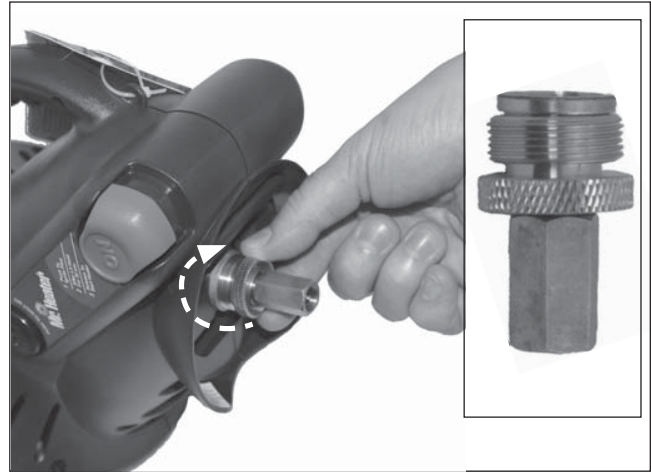
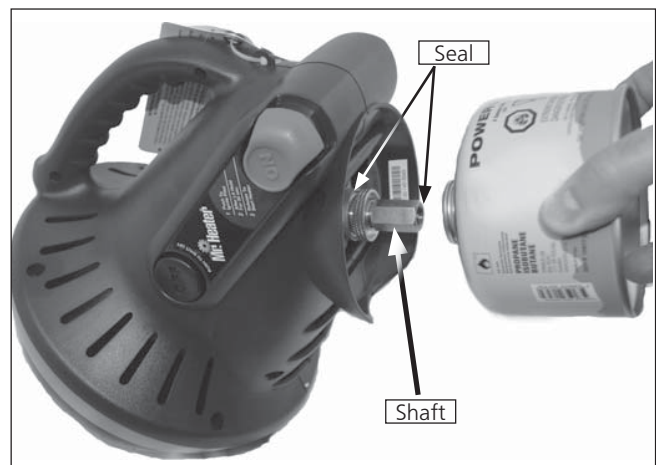

Figure 1
Figure 2
- Check that seals (between the appliance and the gas container) are in place and in good condition before connecting to the gas container. Do not use an appliance which has damaged or worn seals. Do not use an appliance which is leaking, damaged or which does not operate properly. See Figure 2
- To use with butane/propane mixture (G30+G31): Screw brass adapter clockwise into portable heater regulator (from bottom) until tight. See Figure 1. Do not use thread sealant on this connection. Screw Butane/propane mixture (G30+G31) cartridge into the adapter (clockwise), once the shaft on the adapter starts to turn the cartridge is connected, then fit the cartridge into the stand. See Figure 2.
- Depress "ON" button for 30 seconds to light pilot flame (repeat until pilot lights) and continue to hold for 30-60 seconds. See Figure 2